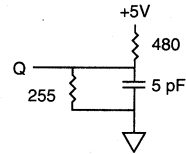

Fig. 2 OUTPUT LOAD EQUIVALENT
6. ^tHZCE and ^tHZWE are specified with CL = 5pF as in Fig. 2. Transition is measured ± 500mV from steady state voltage.